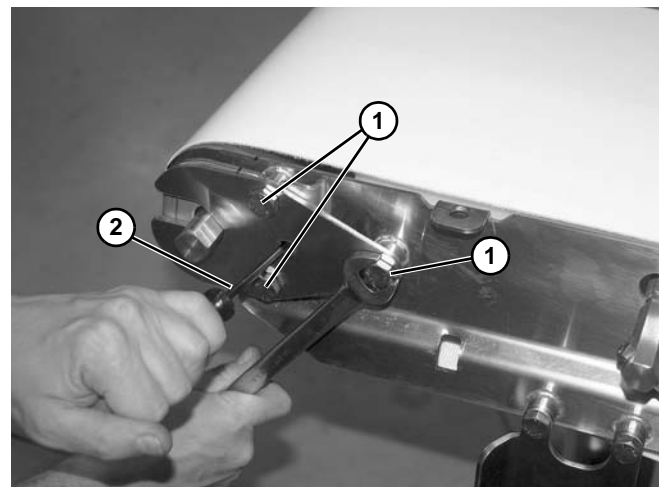

Figure 49
1. To adjust tracking, loosen three screws (Figure 49, item 1) on each side of conveyor.
2. Tension each end with a bar (Figure 49, item 2), as needed for tracking. While applying tension, tighten three screws (Figure 49, item 1).